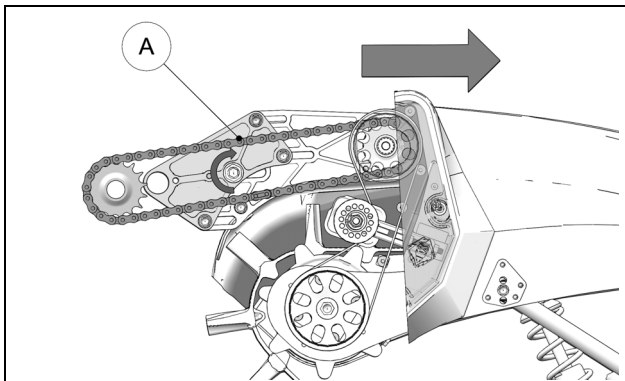

Figure 51
If the chain is adjusted to the highest tension setting (A) and the required 3 - 6 mm amount of play (1/8-1/4 in.) cannot be obtained at mid-point (B) between the sprockets, the chain should be replaced. See Figure 51.